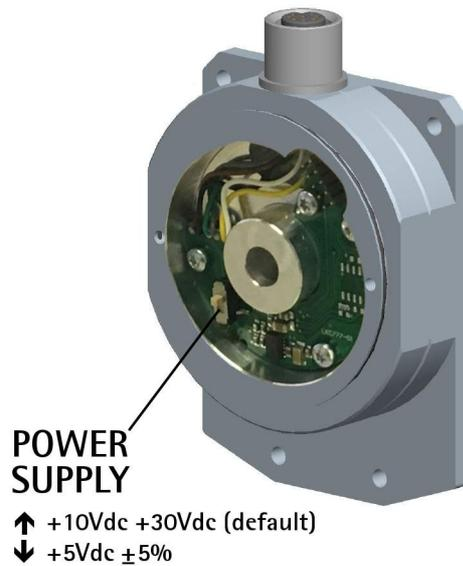

Figure 5 - POWER SUPPLY DIP switch
Before switching the power on, please read carefully the "4.1.1 POWER SUPPLY DIP switch (Figure 5)" section on page 27.
4.1.1 POWER SUPPLY DIP switch (Figure 5)